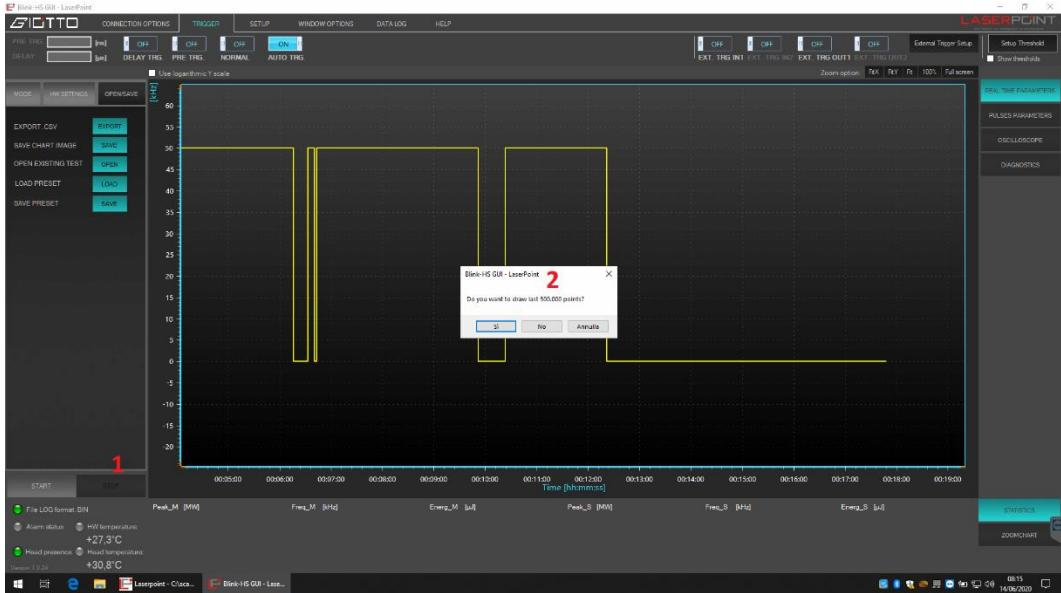

Figure 32
- Once acquisition is stopped (1, fig.32), a selection popup appears, proposing the choice to replot the last 500000 points (2, fig.32)